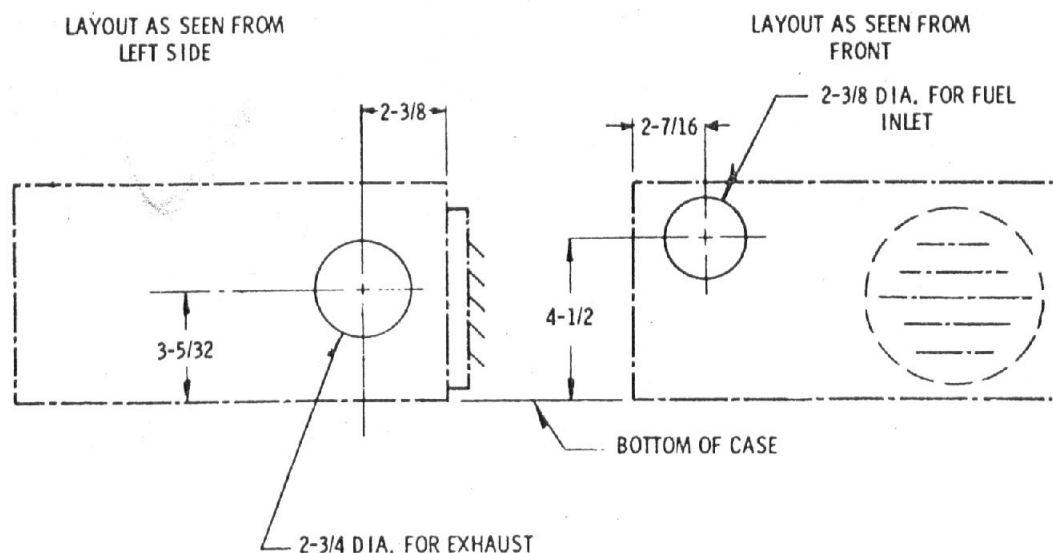

Figure 1. Model UH-47-6LP Heater, Mounting Dimensions.
4. Before making any permanent connections or bolted installations, cut or drill all holes which may be required by the following paragraphs B through E. Also see Figure 1.